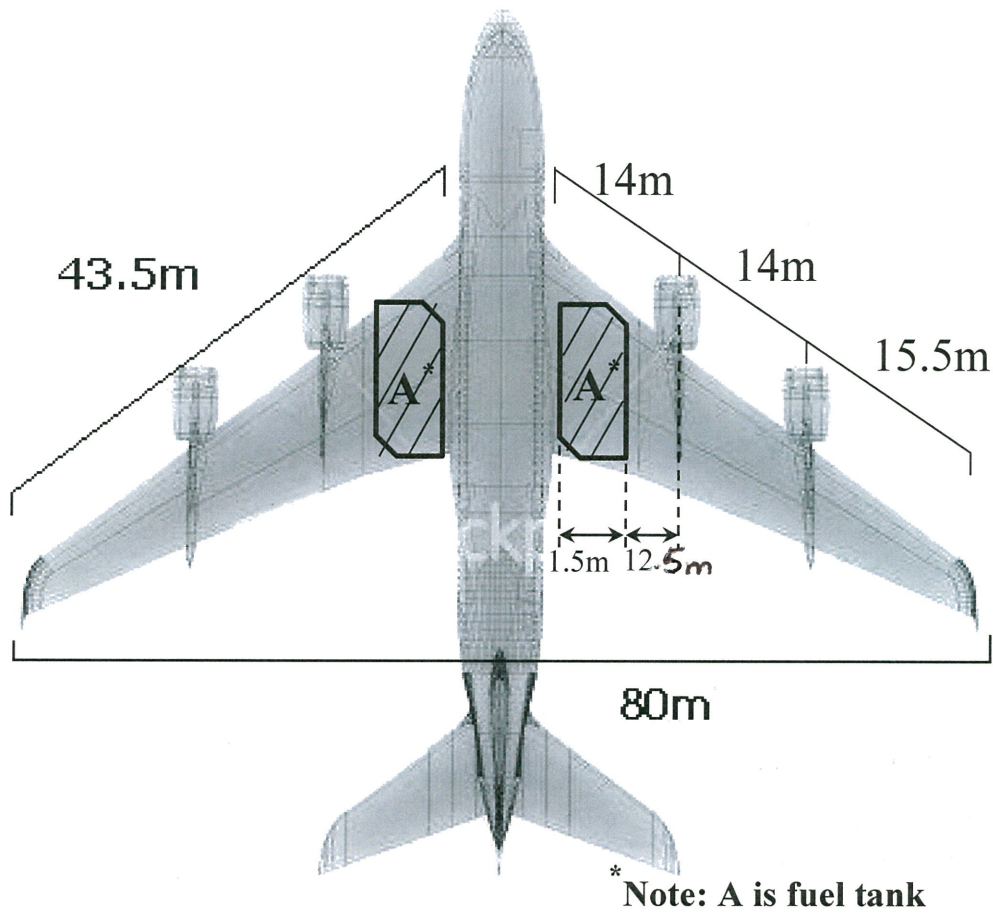

FIGURE Q2
- Q2** Airbus A380 has a total of 4 engines with 100 kg each located at port and starboard wing as illustrated in **Figure Q2**. The width of the center fuselage is 6.58 m and the length from wing root to wing tip 43.5 m. This aircraft loaded with 50 kg of GTL fuel distributed evenly in each wing at section A. Assume the wing is in horizontal condition when there is no fuel loaded and engines mounted on the aircraft. When the external loads are applied (fuel and engines):